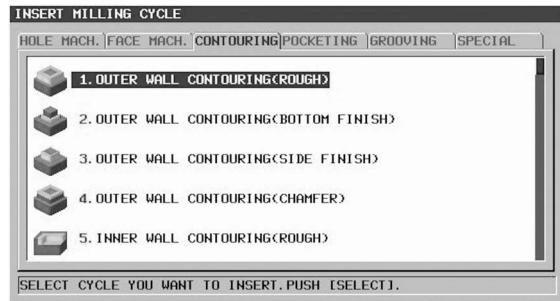

Figure 7-53 OUTER WALL CONTOURING
- Press the CYCLE soft key. Use the cursor keys to activate the CONTOURING tab of the MILLING CYCLE dialog. Choose 1. OUTER WALL CONTOURING (ROUGH) from the list of options and press the SELECT soft key (Figure 7-53).